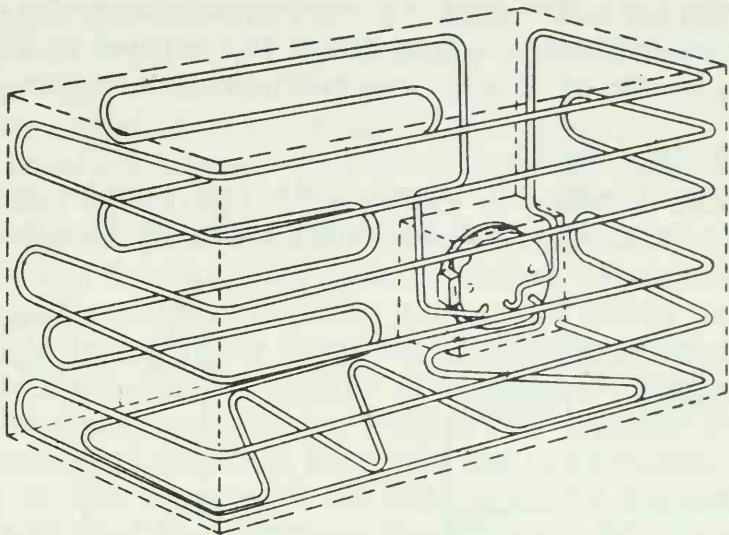

Fig. 2-12. Freezer evaporator.
**Evaporator**—The evaporator in a freezer usually takes the form of a series of “wrapper” coils which are imbedded in the space between the liner and the outer shell (Fig. 2-12). This arrangement insures the even distribution of zero cold throughout the roomy cabinet interior.